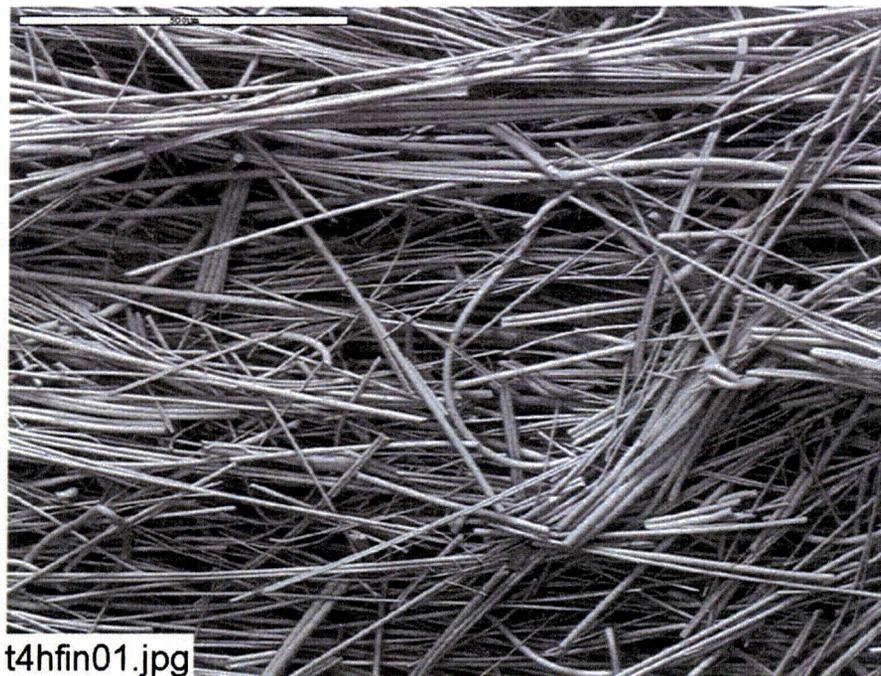

Figure C4-6. Environmental SEM image magnified 100 times for a Test #4, Day-30 interior high-flow fiberglass sample. (t4hfin01.jpg)
- Figure C4-6. Environmental SEM image magnified 100 times for a Test #4, Day-30 interior high-flow fiberglass sample. (t4hfin01.jpg)..... C4-6